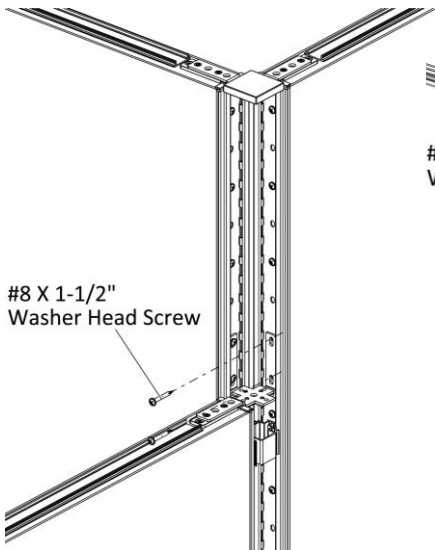

Figure 9
- 16. Drive two #8 x 1-1/2" Washer Head Screws through the holes in the intermediate panel connector into the third panel, (Figure 9).